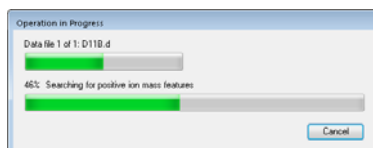

Figure 36 Find Compounds by Molecular Feature progress box
- d Click **Actions > Find Compounds by Molecular Feature**, or click the Find Compounds by Molecular Feature button  in the **Method Editor: Find Compounds by Molecular Feature** section in the Method Editor window. Molecular feature extraction begins immediately and the progress is shown in an **Operation in Progress** status box as shown in Figure 36.